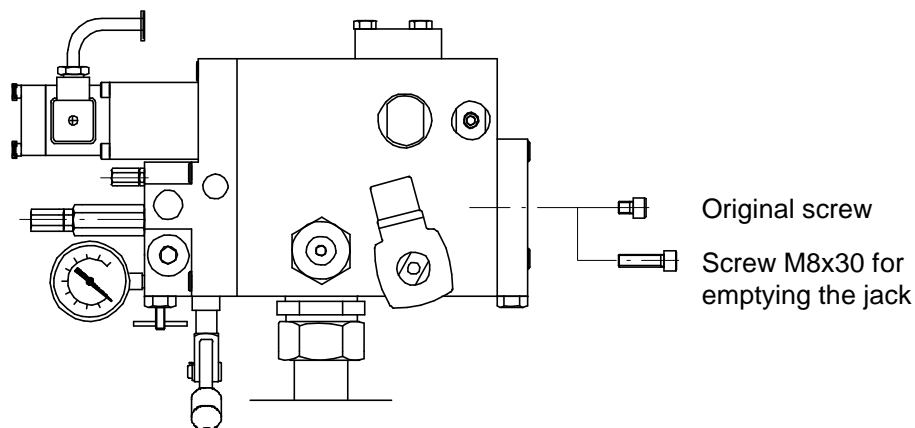

Fig. 10.13 Replacement of the screw in the side plate
4. Replace the M8 screw located in the middle of the side plate with a minimum 30mm long screw (see Fig. 10.13).